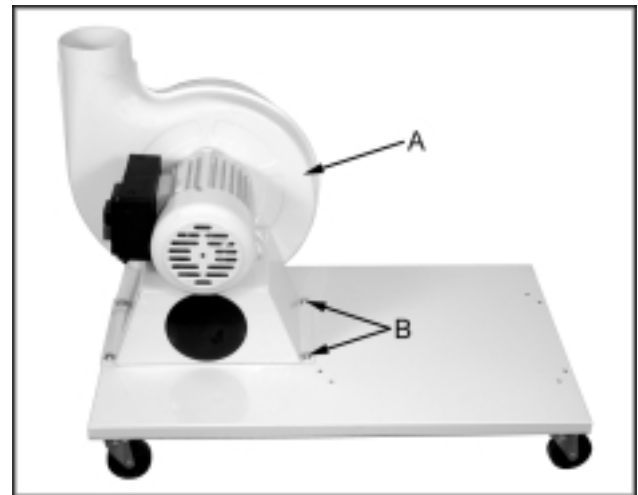

Fig. 2
2. Place the base with casters on the ground. Attach the motor and fan assembly (A, Fig. 2) to the base using *four* M8 x 16 hex cap bolts, *four* M8 flat washers (B, Fig. 2), and a 13mm wrench.